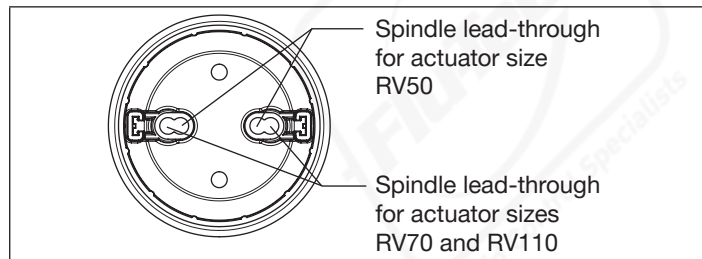

Fig. 7: Spindle lead-through
- Use only the spindle lead-through that matches the actuator size (see “Fig. 7”).
→ Push the switch spindles through the matching spindle lead-throughs. The outside lead-throughs are designed for actuator size RV70/110, while the inside lead-throughs for actuator size RV50 (see “Fig. 7”).